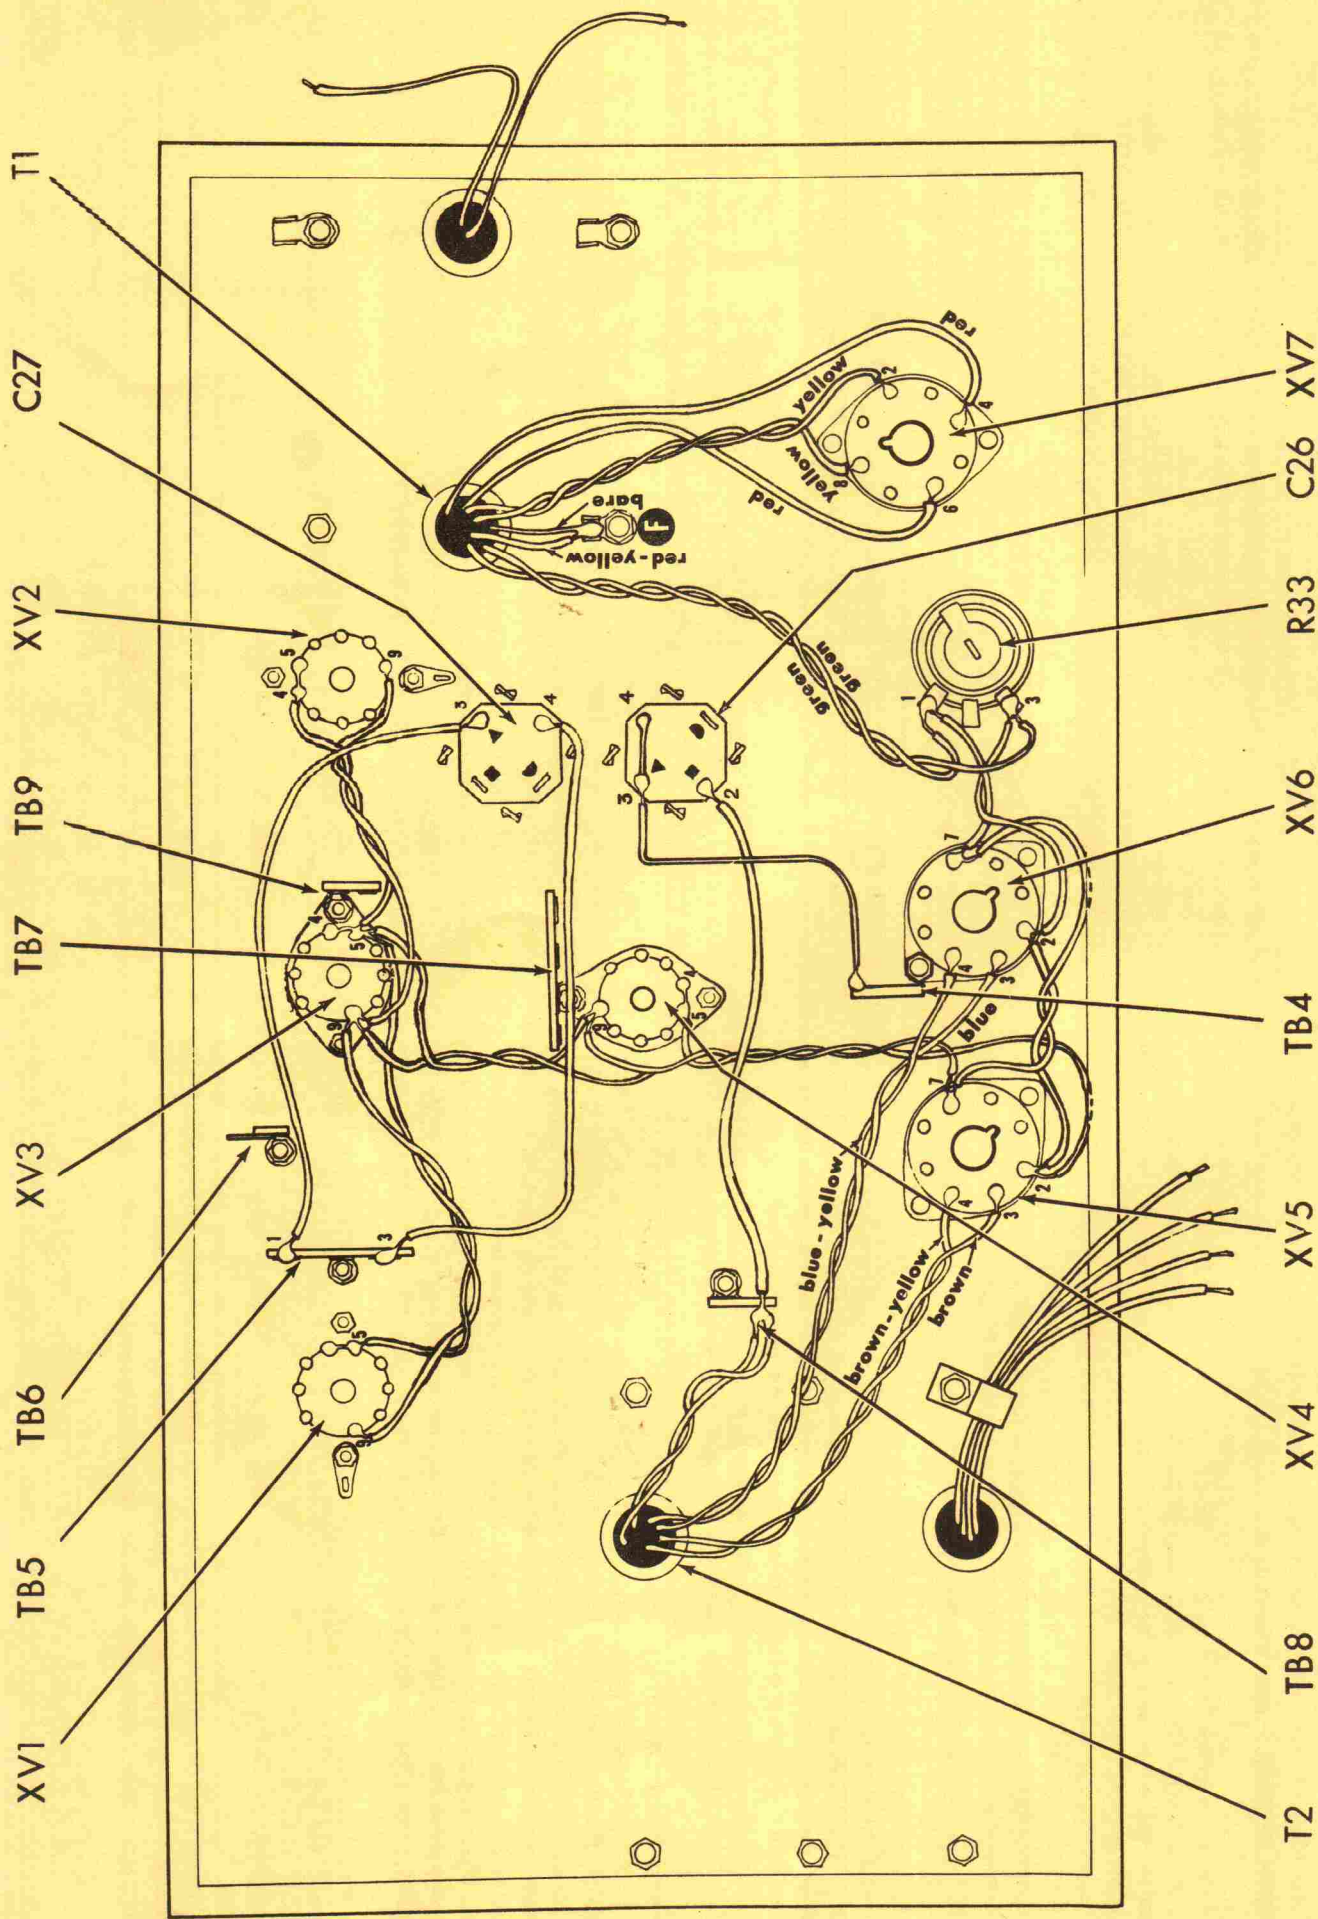

Fig. 1
INSERT DRAWINGS - FOR FIG. 1
- () Fig. 1. Mount sockets with shield supports XV1 & XV2 as shown. Use two #4-40 screws, two #4 hex nuts, one #4 lockwasher and one #4 ground lug per socket. See insert drawing B.
- () Fig. 1. Mount socket, XV3, as shown. Use two #4-40 screws, two #4 hex nuts and two #4 lockwashers. Mount a one post right with ground terminal strip, TB9, under one lockwasher at one end of socket. See insert drawing E.
- () Fig. 1. Mount socket, XV4, as shown. Use two #4-40 screws, two #4 hex nuts and two #4 lockwashers. Mount a three post, two right with ground terminal strip, TB7, under one lockwasher at one end of socket. See insert E.
- () Fig. 1. Mount the 100Ω open pot., R33, as shown. Use one 3/8" hex nut, one fiber flat washer and one fiber shoulder washer. Be careful that the pot does not short against the chassis. See insert drawing D.
- () Fig. 1. Mount the power transformer, T1, as shown. The black leads must come through the hole nearest the side. Use four #10-24 screws, four #10 hex nuts, four #10 flatwashers and four #10 lockwashers. Mount three #10 ground lugs under three of the lockwashers. See insert drawing A.
- () Fig. 1. Mount the output transformer, T2, as shown. The hole with the four leads should be at the rear of the chassis. Use six #10-24 screws, six #10 hex nuts, six #10 flat washers and six #10 lockwashers. Use the cable clamp installed under the mounting nut shown to gather the 4 leads referred to above.
- () Fig. 1. Mount a one post left terminal strip, TB8, a two post with ground terminal strip TB5 and a two post upright terminal strip TB6 as shown. Use one #6-32 screw, one #6 hex nut and one #6 lockwasher per terminal strip.
- () Fig. 1. Mount the electrolytic capacitors, C26 and C27, as shown. Note carefully the position of the three code markers (triangle, semi-circle and square) next to the prongs of the capacitor. Insert the mounting tabs into the slots in the chassis and twist the tabs somewhat less than a quarter turn. DO NOT twist the tabs excessively or they will shear off.
- () Fig. 1. Mount sockets, XV5, XV6, and XV7 as shown. Use two #6-32 X 3/8 screws, two #6 hex nuts and two #6 lockwashers. Mount a one post right terminal strip, TB4, with XV6. See insert drawing E.
- () Fig. 1. Twist the two green leads from the power transformer, T1, and connect one lead to R33-1 (C) and the other to R33-3 (C).
- () Fig. 1. Connect a yellow lead from R33-1 (S) to XV6-7 (C).
- () Fig. 1. Connect a brown lead from R33-3 (S) to XV6-2 (C).
- () Fig. 1. Cut and strip the ends of one 5" length of yellow wire and one 5" length of brown wire. Connect one end of the yellow lead to XV6-7 (S) and one end of the brown lead to XV6-2 (S). Twist the two leads. Connect the other end of the yellow lead to XV5-7 (C) and the other end of the brown lead to XV5-2 (C).
- () Fig. 1. Following the above procedure, cut and strip a 6" length of brown wire and a 5" length of yellow wire. Connect the yellow lead to XV5-7 (S) and the brown lead to XV5-2 (S). Twist the two leads. Connect the yellow lead to XV4-9 (C). Pass the brown lead through XV4-5 (C) to XV4-4 (S).
- () Fig. 1. Following the above procedure, cut and strip a 3" length of yellow wire and a 5" length of brown wire. Connect the yellow lead to XV4-9 (S) and the brown lead to XV4-5 (S). Twist the two leads. Connect the yellow lead to XV3-9 (C) and the brown lead through XV3-5 (C) to XV3-4 (S).
- () Fig. 1. Following the above procedure, cut and strip a 5" length of yellow wire and a 5" length of brown wire. Connect the yellow lead to XV3-9 (C) and the brown lead to XV3-5 (C). Twist the two leads. Connect the yellow lead to XV2-9 (S) and the brown lead through XV2-4 (S) to XV2-5 (S).
- () Fig. 1. Following the above procedure, cut & strip a 7" length of yellow wire and a 7" length of brown wire. Connect the yellow lead to XV3-9 (S) and the brown lead to XV3-5 (S). Twist the two leads. Connect the yellow lead to XV1-9 (S) and the brown lead through XV1-5 (S) to XV1-4 (S).
- () Fig. 1. Twist the yellow leads of the power transformer T1 and connect to XV7-2 (S) and XV7-8 (C).
- () Fig. 1. Twist the red leads of the power transformer T1 and connect to XV7-4 (S) and XV7-6 (S).
- () Fig. 1. Connect the red-yellow lead and the bare lead of the power transformer T1 to ground lug "F" (S).
- () Fig. 1. Twist the red and red-yellow leads of the output transformer T2 and connect to TB8 (C).
- () Fig. 1. Connect a blue lead from TB8 (C) to C26-2 (C).
- () Fig. 1. Twist the blue and blue-yellow leads of the output transformer T2. Connect the blue lead to XV6-3 (S) and the blue-yellow lead to XV6-4 (S).
- () Fig. 1. Twist the brown and brown-yellow leads of the output transformer T2. Connect the brown lead to XV5-3 (C) and the brown-yellow lead to XV5-4 (S).
- () Fig. 1. Connect a 6" blue lead from TB5-1 (C) to C27-3 (C).
- () Fig. 1. Connect an 8" blue lead from TB5-3 (C) to C27-4 (C).
- () Fig. 1. Connect one end of a 4" blue lead to TB4 (C). Pass the other end thru C26-3 (C) and connect to C26-4 (C).